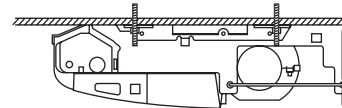

Fig. 3-84
- (c) Tighten the two hexagonal nuts on each suspension bolt to suspend the indoor unit as shown in Fig. 3-84.